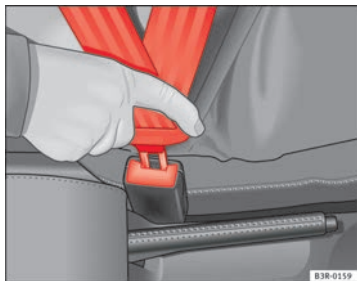

Fig. 11 Belt buckle and latch plate of seat belt
- Insert the latch plate into the buckle for the appropriate seat and push it down until it is securely locked with an audible click ⇒ Fig. 11.